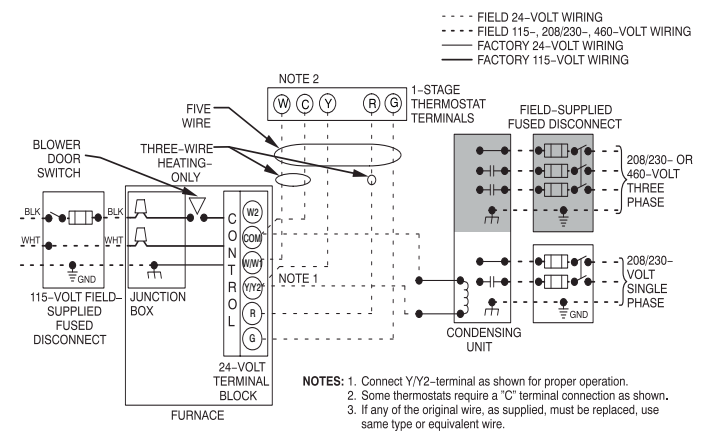

Fig. 32 – Typical Field Wiring Diagram A11401
See Fig. 32 for field wiring diagram showing typical field 115-V wiring. Check all factory and field electrical connections for tightness.
6. Connect power cord power and neutral leads to furnace power leads as shown in Fig. 32.
5. Connect field power and neutral leads to furnace power leads, as shown in Fig. 32.